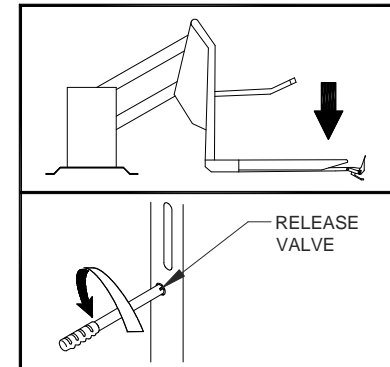

FIGURE 2-8: MANUAL OPERATION
- a. Refer to **Figure 2-8**. Insert notched end of pump handle into hole in hydraulic pump cover marked "RELEASE VALVE" and engage pump release valve.
- a. Refer to **Figure 2-8**. Turn valve 1/4 turn counterclockwise to begin lowering platform.